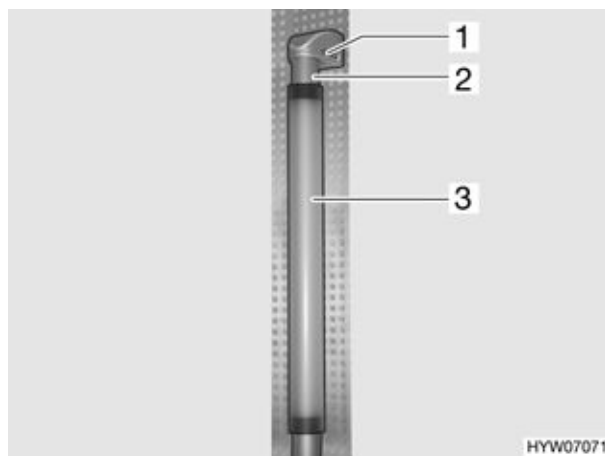

Fig. 187 Toilet light (variant 1)
- Loosen the column base (Fig. 187,1).
- Push metal case (Fig. 187,2) up and remove lamp glass (Fig. 187,3) upwards.